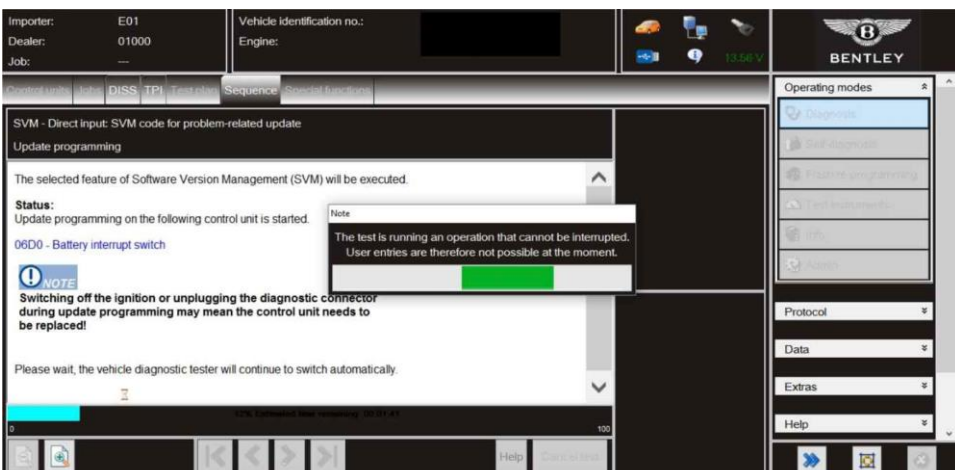

Figure 7
- The software of the Battery interrupt switch will then be updated, a progress bar will be displayed (Figure 7)